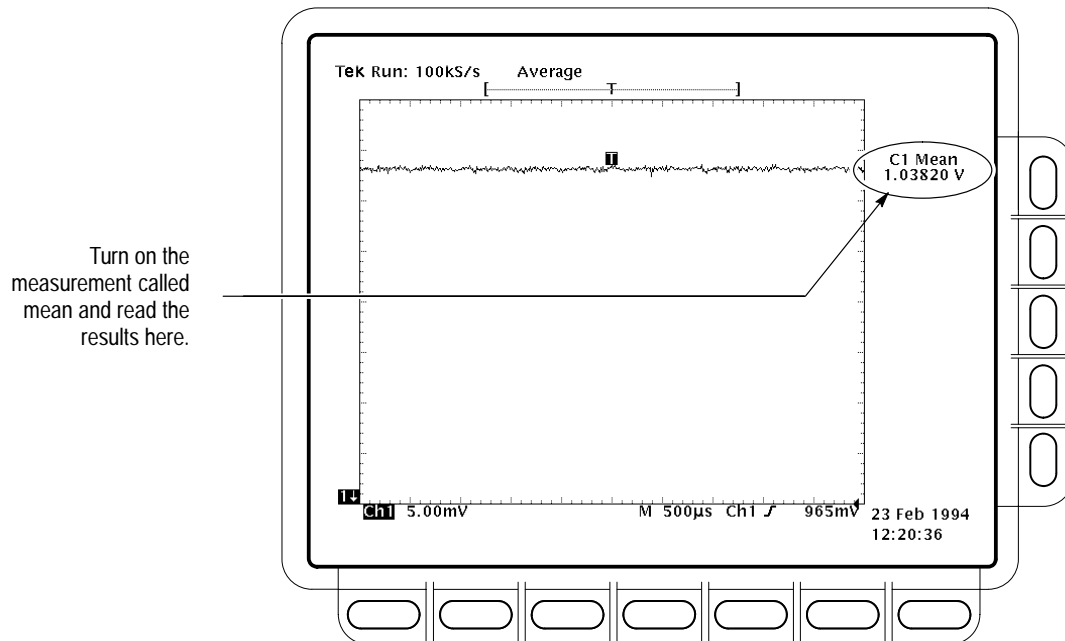

Figure 1-6: Measurement of DC accuracy at maximum offset and position
e. *Measure the test signal:* Press **CLEAR MENU**. Read the measurement results at the **Mean** measurement readout. See Figure 1-6.